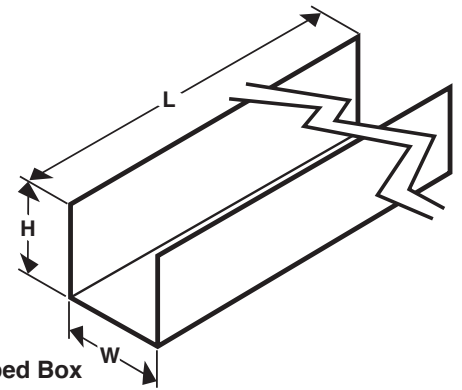

Figure 10A: U Shaped Box
5. Fabricate a U shaped box with inside dimension of 6.5" wide and 6" high sides. (materials field supplied) See figure 10A.
- Fabricate a U shaped box (materials field supplied) with inside dimension of 6.5" wide and 6" high sides. See figure 10A.
5. Fabricate a U shaped box (materials field supplied) with inside dimension of 6.5" wide and 6" high sides. See figure 10A.